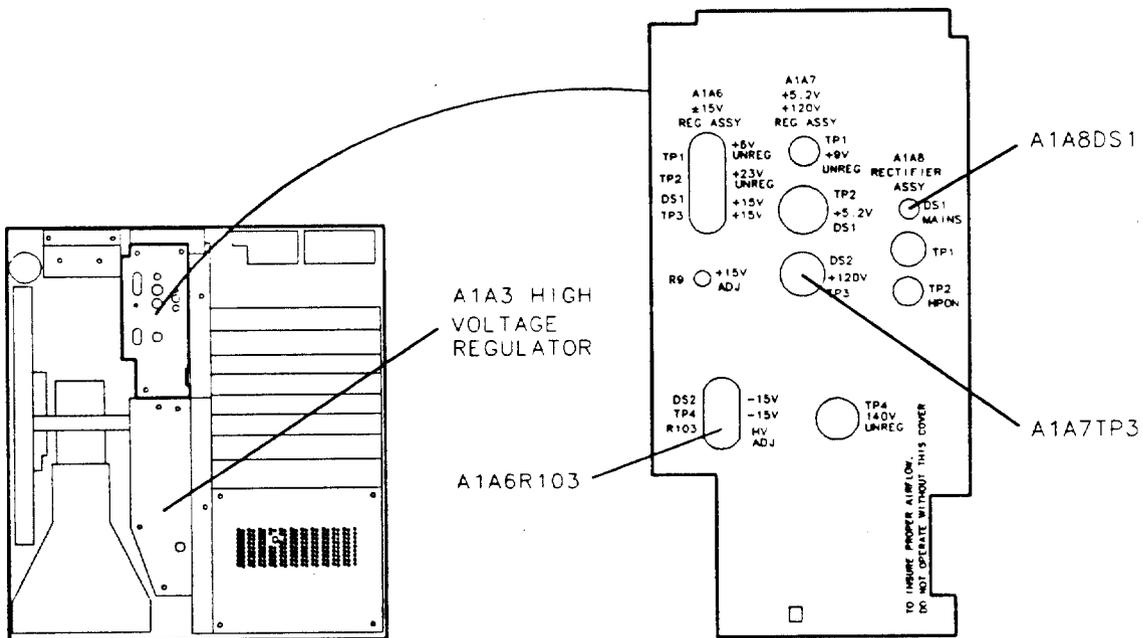

Figure 5. Location of High Voltage Adjustments
3. Connect the DVM to A1A7TP3 (+120 V) without the high-voltage probe. See Figure 5. Set the DVM to the 100 V range.
14. Adjust A1A6R103 HV ADJ for a DVM indication equal to the calibration factor (calculated in step 8) times the voltage labeled on the top of A1A3A1 High-Voltage Regulator (noted in step 10). See Figure 5 for the location of the adjustment.